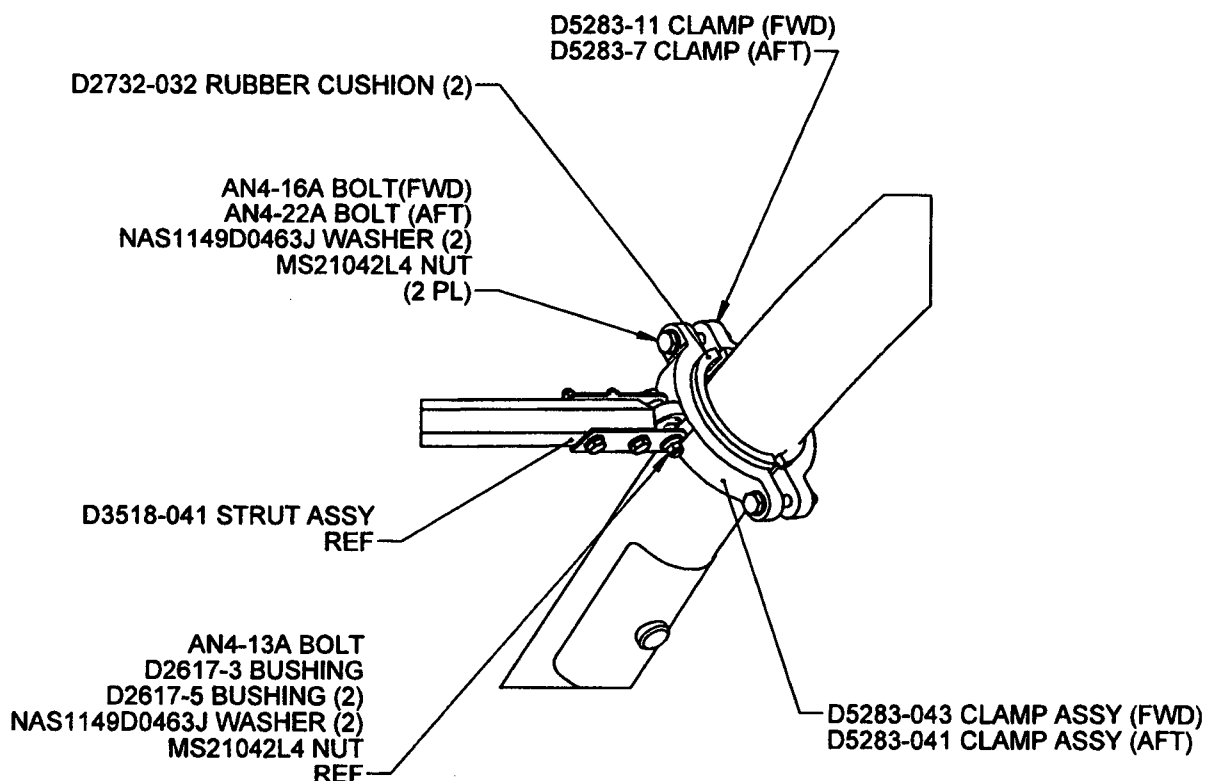

FIGURE 2: CLAMP INSTALLATION
- 4.5 Pivot the Basket upwards and attach the qty (2) D3518-041 Strut Assemblies to the D5283-041/043 Clamps using AN4-13A Bolts, D2617-3 Bushing, D2617-5 Bushings (2), NAS1149D0463J Washers (2) and MS21042L4 Nuts for each Strut. See Figure 2.